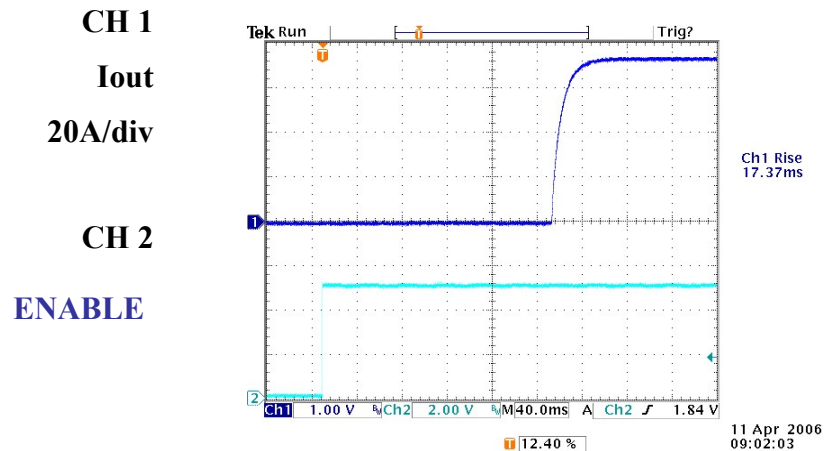

Figure 4, Response of Iout to ENABLE signal
2. **INTERFACE CONNECTION** Connect user system to 15 pin D-sub connector shown in Figure 4. (Although the user interface is typically designed by the user, Lumina Power can provide any assistance necessary to modify interface program